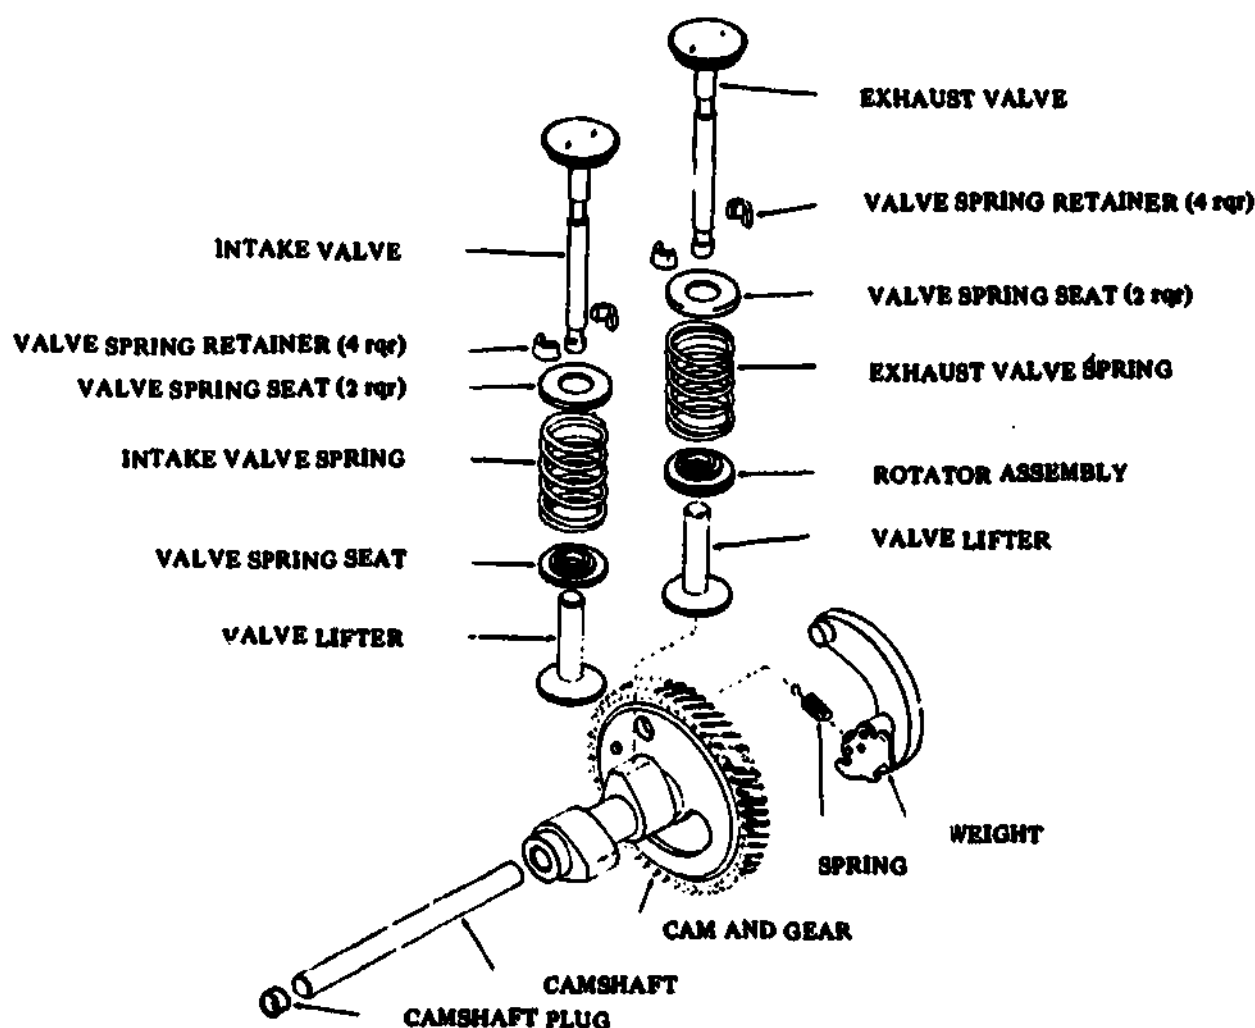

Fig 2-4. Exploded view of valve mechanism.
- (d) Valve mechanism (fig 2-4). Defective valves can cause the engine to misfire, back-fire, or fail to start. They can be repaired or replaced with little difficulty by removing the cylinder head, carburetor and intake, and the exhaust; then removing the valves for examination and repair. Clean the carbon and gum deposits from the valves and the valve seats. Check the diameter of the valve stem for wear and the valve face for wear or pits. Check the valve seat for pits and cracks. Check the valve springs for tension and breaks. Use a new valve stem and check the valve guides for wear. Replace those parts which cannot be repaired. If the valve face can be repaired and the stem is good, reface it on the valve-refacing machine. Reface the valve seats and clean thoroughly to remove the valve-grinding compound. Install the parts and adjust by turning the engine until one valve spring is completely compressed and then adjust the other. On some models of the engine, the valves must be removed and the end of the stem ground to obtain more clearance. If the engine is completely disassembled, the cam lobes, camshaft gear, and the spark advance for gear-driven, self-contained magnetos should also be checked.